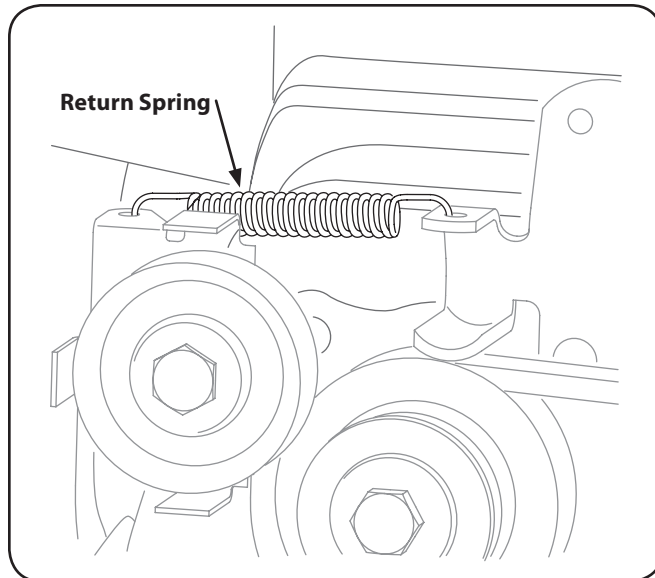

Figure 7-3
2. Remove the return spring. See Fig. 7-3.